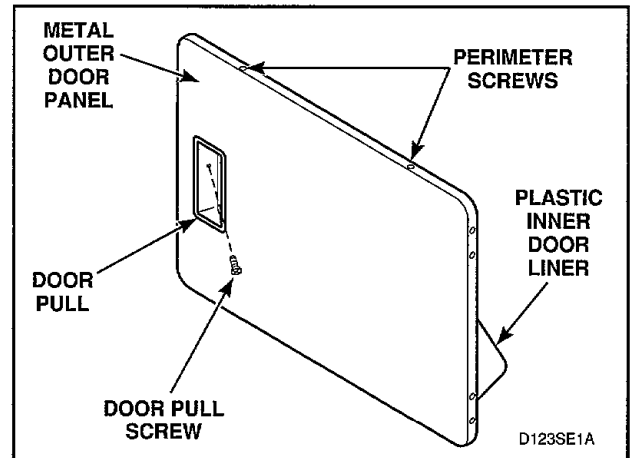

Figure 19
- Remove screw from door pull, *Figure 19*, and the remaining screws around the door perimeter. Set hinges aside at this time.